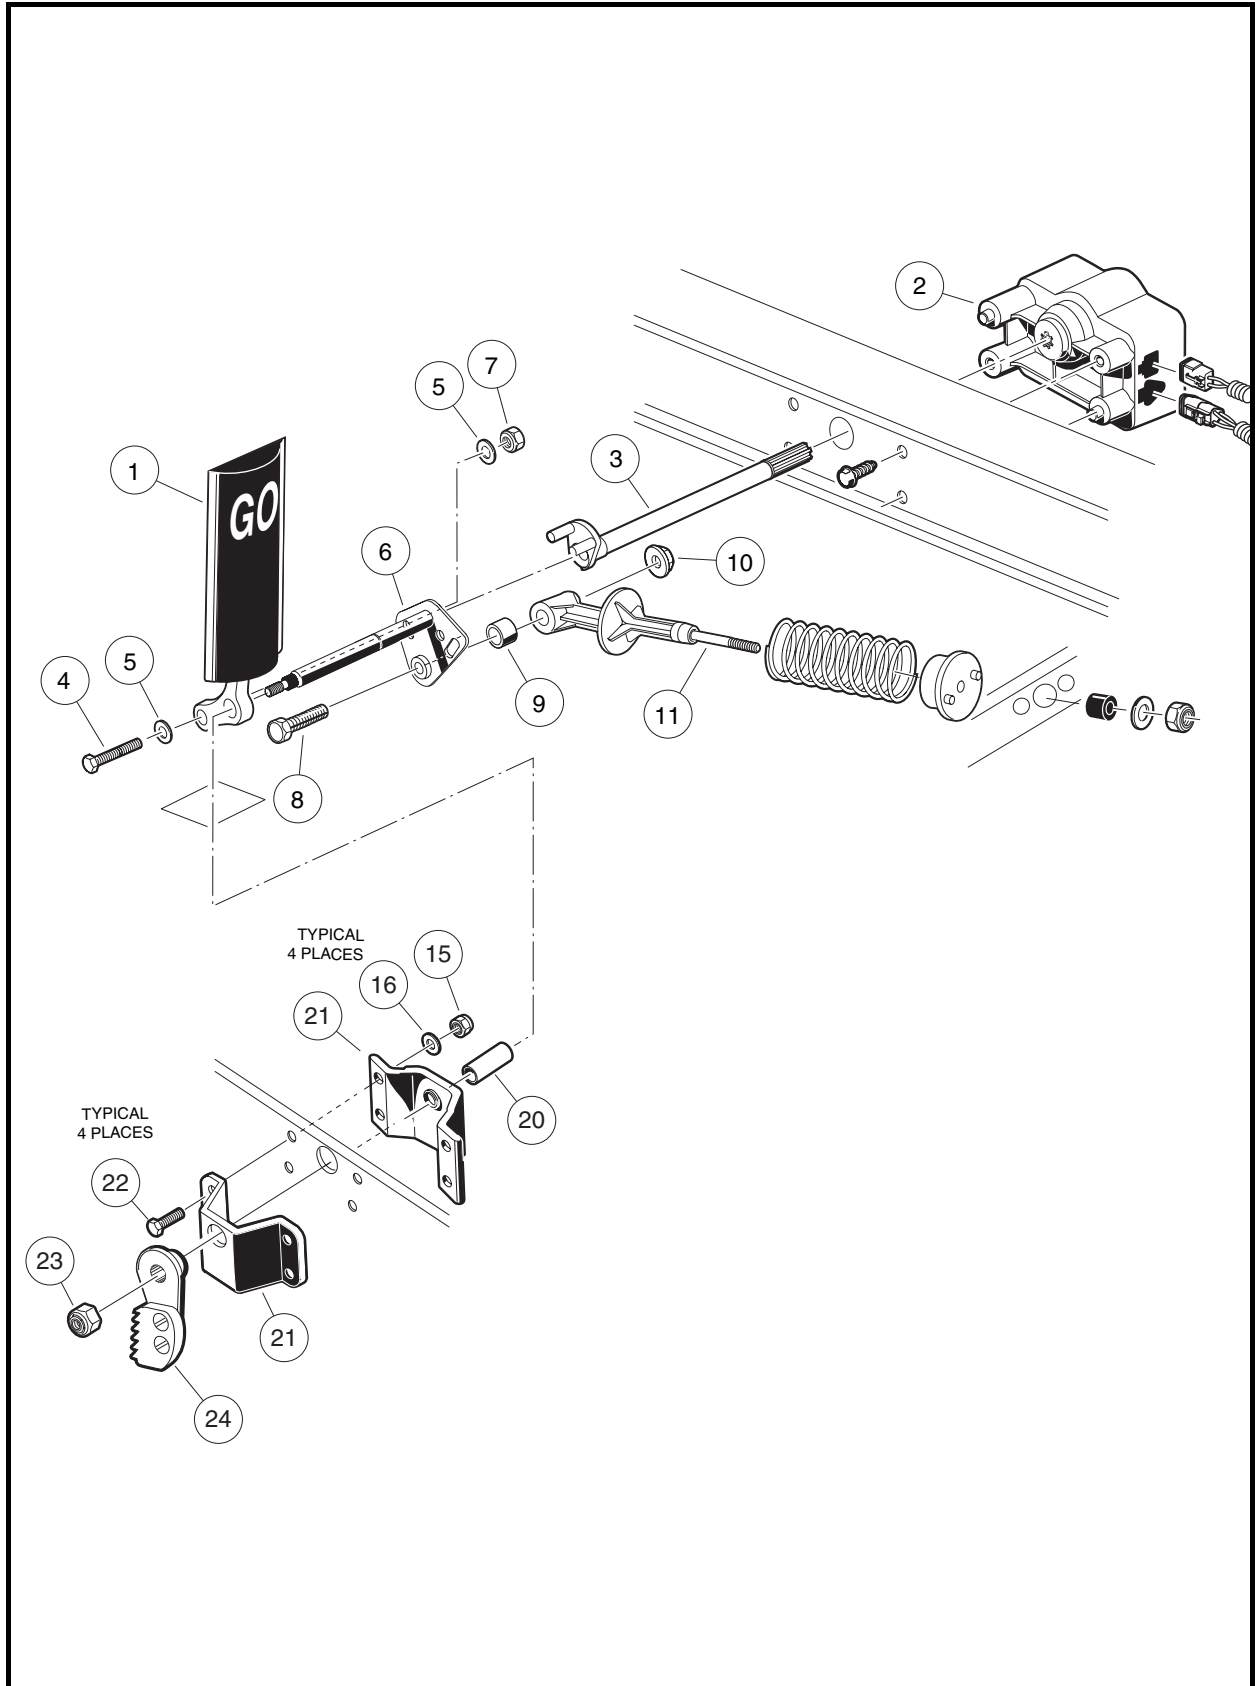
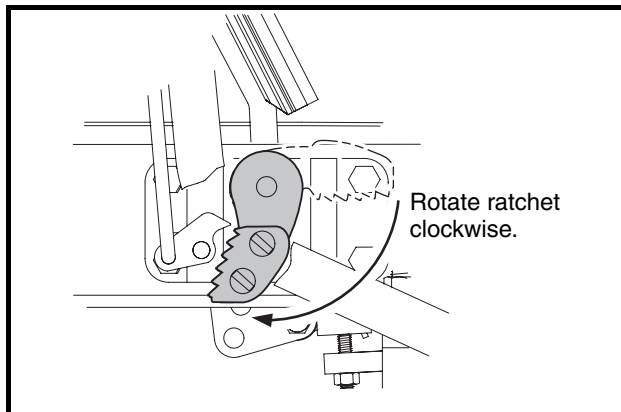

Figure 5-7 Accelerator Pedal – Electric Vehicle
Figure 5-8 Ratchet Installation
3. Remove the MCOR (2) and drive bar (3) as instructed (**Figure 5-7, Page 5-9**). See **MCOR Removal, Section 23, Page 23-8**.
4. Use a 9/16-inch socket and 9/16-inch wrench to remove the nut (7), two washers (5), and bolt (4) securing the accelerator pedal (1) to the pivot rod (6) (**Figure 5-7, Page 5-9**).
5. Remove the nut (10) and bolt (8) from the accelerator pivot rod assembly (6).
6. Slide the spring retainer (11) off of the accelerator pivot rod.
7. Inspect the pivot support bearing (9) for wear and replace if necessary.
8. Use a marker to mark the position of the park brake ratchet (24) on the accelerator pivot rod (6). See following **NOTE**.
9. Remove the lock nut (23) from the accelerator pivot rod (**Figure 5-7, Page 5-9**).
10. Press the brake pedal slightly and slide the park brake ratchet (24) toward the end of the accelerator pivot rod. Rotate the ratchet and remove it from the pivot rod.
11. Remove the pivot rod (6) and spacer (20) from the accelerator pivot rod supports (21).
12. Inspect the accelerator pivot rod supports (21) for wear and damage and replace as necessary. If the pivot rod supports do not require replacement, loosen (but do not remove) the four bolts (22) and lock nuts (15) to make installation of the pivot rod easier.
13. Remove the accelerator pedal (1) from the vehicle.
1. If the accelerator pivot rod supports were replaced, position the supports (21) on the vehicle frame and install the four bolts (22), flat washers (16), and lock nuts (15) (**Figure 5-7, Page 5-9**). Finger-tighten hardware at this time.
2. Insert the lower end of the accelerator pedal (1) through the floorboard and install the accelerator pivot rod (6) through the uppermost hole in the pedal.
3. Install plastic spacer (20) on pivot rod (6).
4. Insert the pivot rod through the pivot rod supports (21) on the vehicle frame.
5. Tighten the four bolts (22) attaching the pivot rod supports to the frame to 75 in-lb (8.5 N·m).
6. Insert the bolt (4), with washer (5), through the lower hole in the pedal and through the pivot rod. Secure with washer (5) and new lock nut (7). Finger-tighten lock nut at this time.
7. Install the bolt (8) through the pivot rod (6) and spring retainer (11). Secure these parts with the nut (10). Tighten the nut to 50 in-lb (5.5 N·m).
8. Press the brake pedal slightly, and with the park brake ratchet oriented so that the tip of the ratchet is pointed toward the rear of the vehicle, slide the ratchet onto the pivot rod (do not slide the ratchet onto the pivot rod splines). Release the brake pedal and allow the ratchet to rotate until its tip is pointed downward (**Figure 5-8, Page 5-10**). The ratchet should now rotate freely on the rod.
11. Install lock nut (23) on pivot rod (**Figure 5-7, Page 5-9**). Tighten to 18 ft-lb (24.5 N·m).
12. Install the MCOR (2) and drive bar (3) as instructed. **See MCOR Installation, Section 23, Page 23-9.**